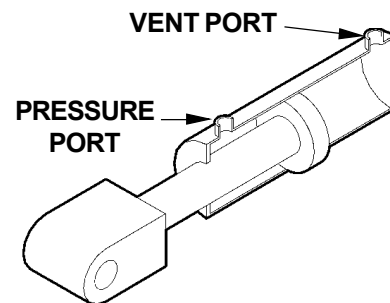

FIG. 39-1
4. Check the Hydraulic Cylinder. With the Platform on the ground, remove the Breather Plug or Vent Line from the Vent Port of the Cylinder (**FIG. 39-1**). Raise the Platform even with the bed. Allow pump motor to run two seconds more while you watch for hydraulic fluid at the Vent Port. A few drops of hydraulic fluid escaping the Vent Port is normal; however, if it streams from the Vent Port, Piston Seals are worn. Replace Seals.